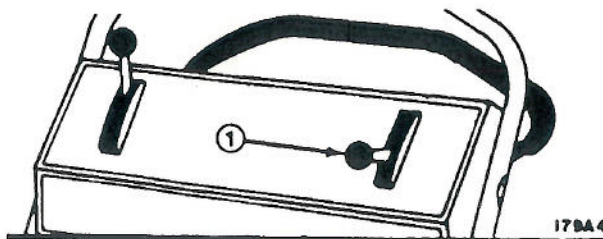

Figure 7
2. Move speed selector to N (NEUTRAL). Move throttle control to CHOKE position (Fig. 7).